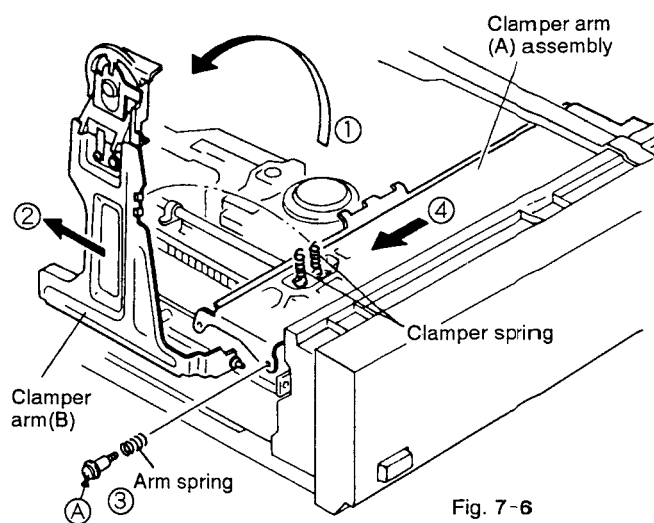

Fig. 7-6
7.4 REMOVING THE CLAMPER ARM (B) AND CLAMPER ARM (A) ASSEMBLY (Fig. 7-6)